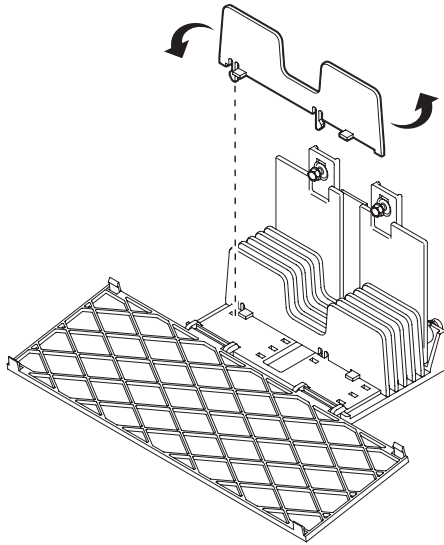

FIGURE 15—Rotating Center Divider.
- 9.05** The stacker assembly will accommodate from one (1) to six (6) splice trays and is adjustable for either single fusion or mass fusion trays by moving the stacker dividers shown in Figure 15. For mass fusion trays, rotate center dividers 180 degrees and snap in place.